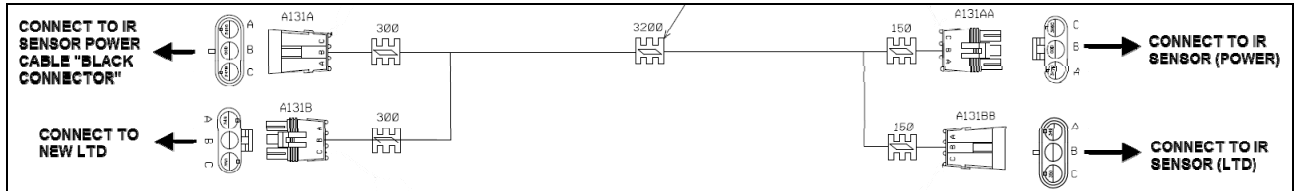
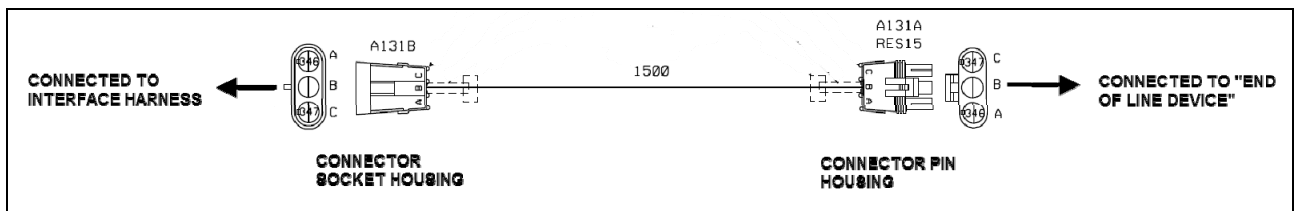

Figure 28: INTERFACE HARNESS #069020
Figure 29: NEW LTD #069041
- 2) Connect the interface harness #069020 to black and newly installed LTD as shown on Figure 28 , Figure 29 & FIGURE 30.